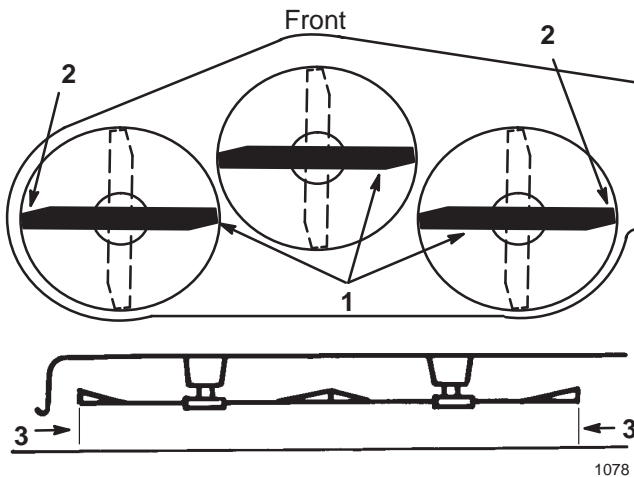

Figure 37
4. Carefully rotate the blade(s) from side to side (Fig. 37). Measure between the outside cutting edges and the flat surface (Fig. 37). If both measurements are not within 3/16 inch (4.75 mm), an adjustment is required; refer to steps 5 and 6.